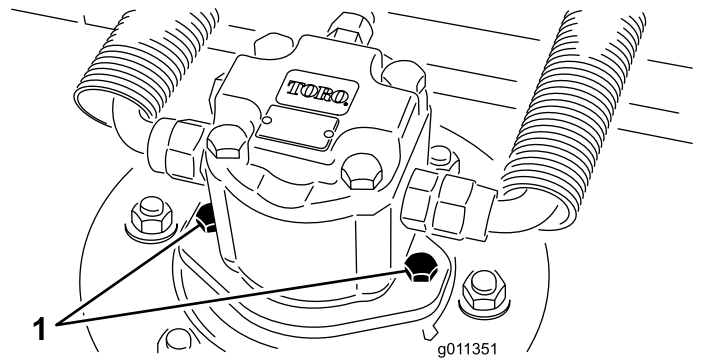

Figure 70
2. Disconnect and remove the hydraulic motor from the deck (Figure 70). Cover the top of the spindle to prevent contamination.
3. Install the hydraulic motor to the deck (Figure 70). Make sure that the O-ring is in position and not damaged.